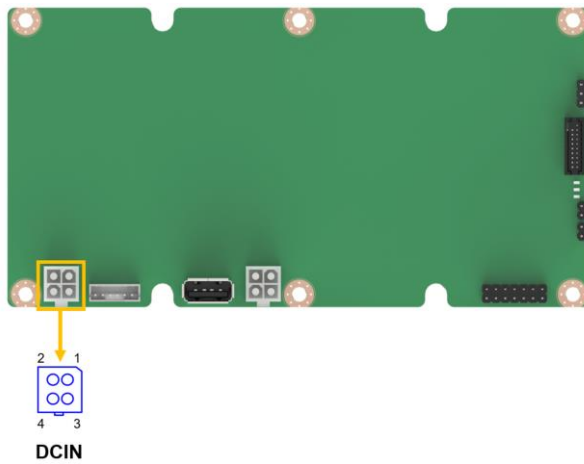

Figure 3-10: Power Input Connector Location
- CN Location:** See **Figure 3-10**